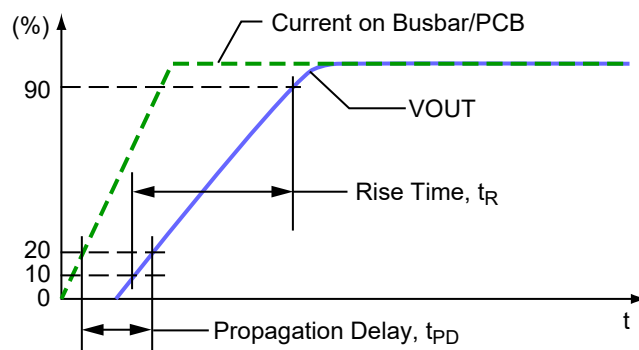

Figure 39: Propagation Delay ( $t_{PD}$ ) and Rise Time ( $t_r$ )
**Rise Time ( $t_r$ ).** The time interval between a) when the sensor reaches 10% of its full-scale value, and b) when it reaches 90% of its full-scale value, as shown in Figure 39.
**Propagation Delay ( $t_{PD}$ ).** The time interval between a) when the sensed current reaches 20% of its full-scale value, and b) when the sensor output reaches 20% of its full-scale value, as shown in Figure 39.